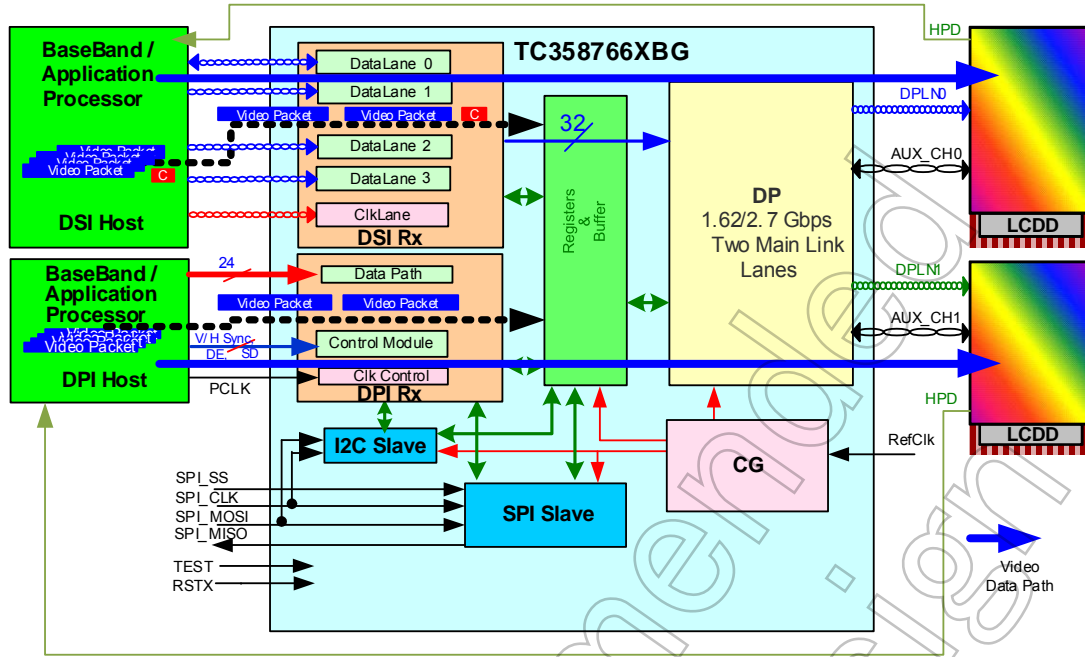

Figure 1.5 System Overview with TC358766XBG in MODE_SP22 Configuration
- Mode_SP22: In this mode, the DisplayPort™ Tx Main links are used as two independent links (each one lane) as shown in Figure 1.5. One DisplayPort™ Tx Main link lane is used to receive the video stream from the DSI Rx port, while the second DisplayPort™ Tx Main link lane is used to receive the video stream from the DPI Rx port. In this configuration, the TC358766XBG can support displays with resolution up to WXGA+, WSXGA (1440x900) at 24bit, 60 fps or WSXGA+ (1680x1050) at 18bit, 60 fps.